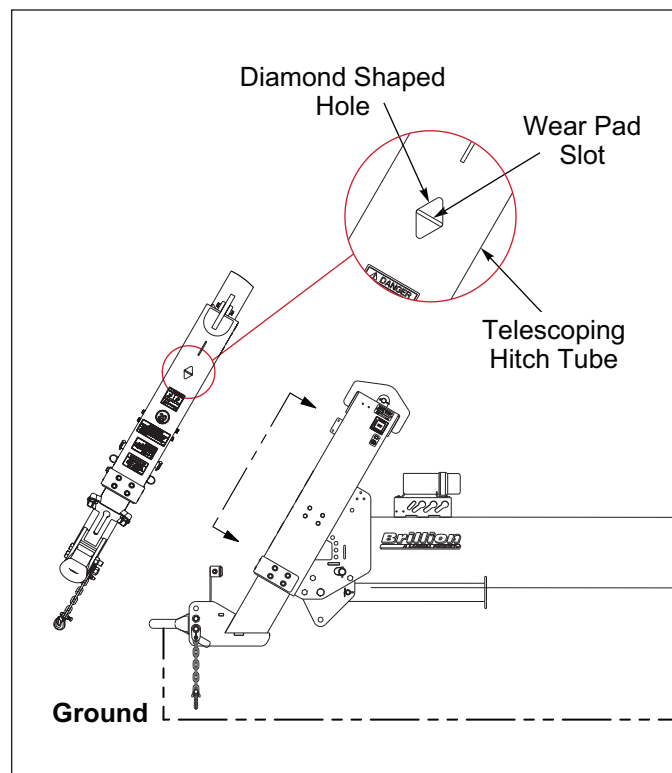

Figure 2-21: Telescoping Hitch Alignment
8. Slowly raise the Telescoping Hitch until the visual reference slot in the Wear Pad is centered in the diamond shaped hole at the front of the Telescoping Tube. The Folding seeder should be parallel to the ground. See Figure 2-21. The Transport Lock Cylinder will extend and the Wing Brace Lock will have engaged.